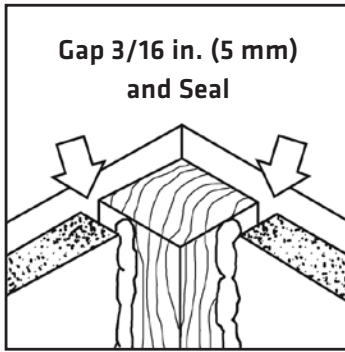

FIGURE 3A
- When sealing, avoid overlapping the sealant onto the face of the siding. LEAVE A 3/16 in. (4 mm) GAP WHERE SIDING BUTTS AGAINST TRIM TO ALLOW FOR EXPANSION. See Figure 3E. These joints can be sealed or covered with a color-matched J-moulding. See Figures 3A & 3B.